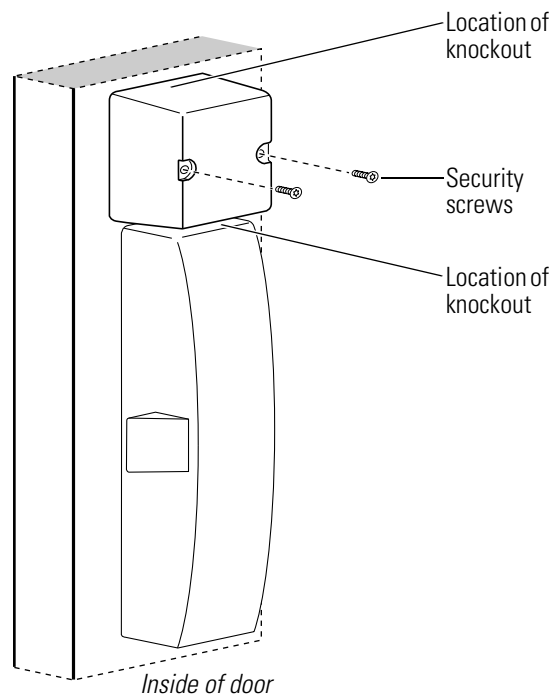

Figure 8.1 Removing and reinstalling the battery cover on the battery bracket
1. *If installing a new battery cover with a surface rod exit device, remove the knockouts for the rod from the battery cover. See Figure 8.1.*
3. Use a T15 TORX bit driver to secure the battery compartment cover with the security screws. Tighten firmly. See Figure 8.1.